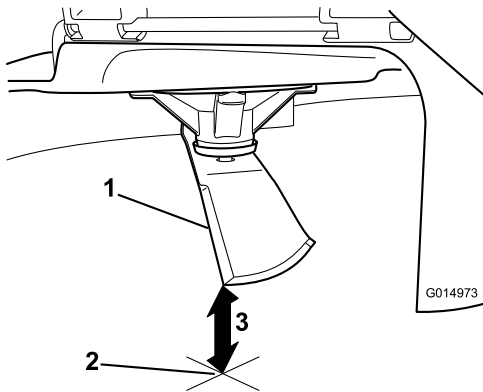

Figure 105
3. Measure from the tip of the blade to the flat surface (Figure 105).